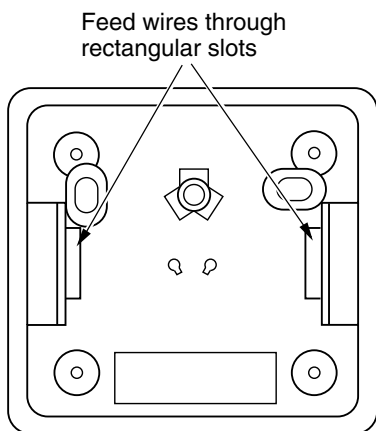

Figure 46 - Back View of Thermostat Base
6. Feed the electrical wires through the rectangular slots (from the back) on each side of the base (see Figure 46).